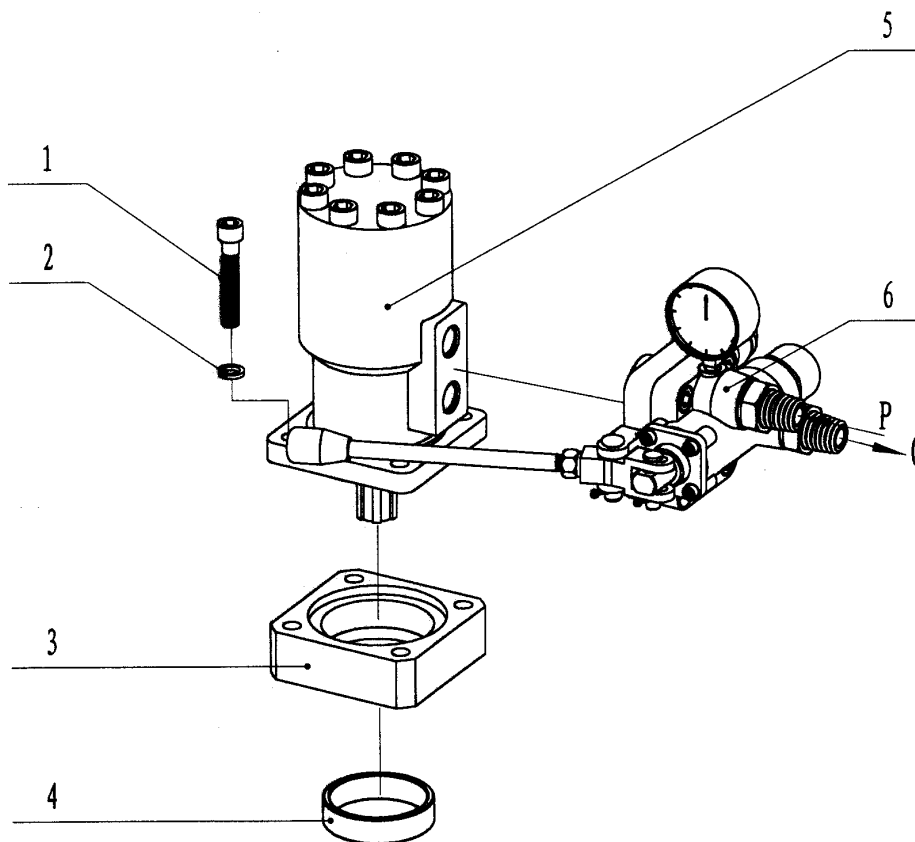

Fig 9
9.2.7 Hydraulic motor and its control valve and fittings (1) (Fig 9, Table 9)